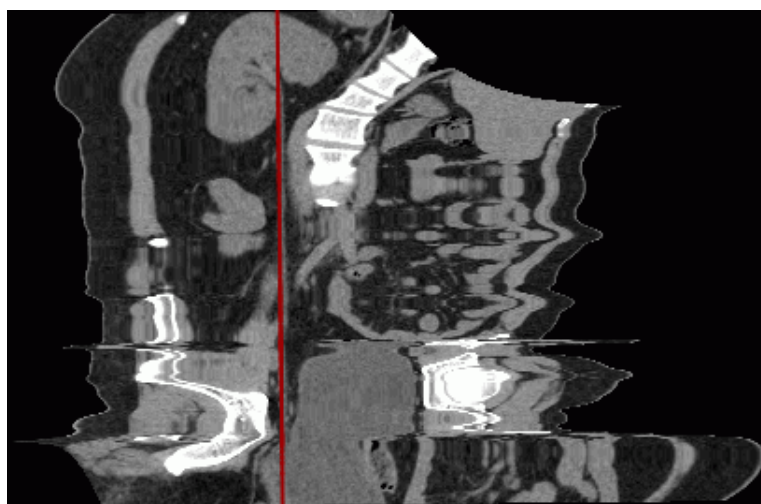

Figure 5.8: Straightened Involute curve mode
- **Straightened involute.** The mode is set by default. In the straightened involute curve window (Fig. 5.8), the curve built by the user is transformed into a straight line. The distortions of space along the curve are marginal and increase with distance from the curve. We recommend this mode when the region of interest is placed near the curve. This option provides for the highest possible level of detail along the curve.